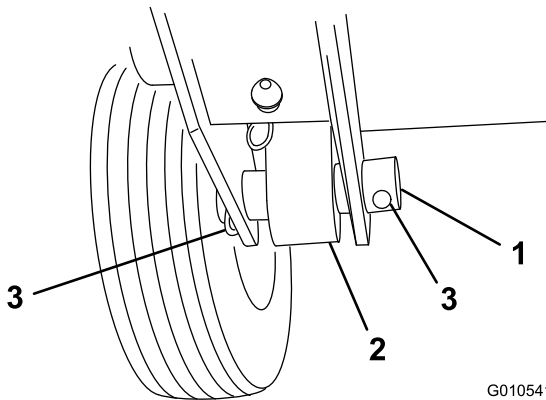

Figure 3
5. Mount the rear of the lift arm to the lift cylinder with a pivot pin and 2 cotter pins (supplied with the traction unit) (Figure 3).